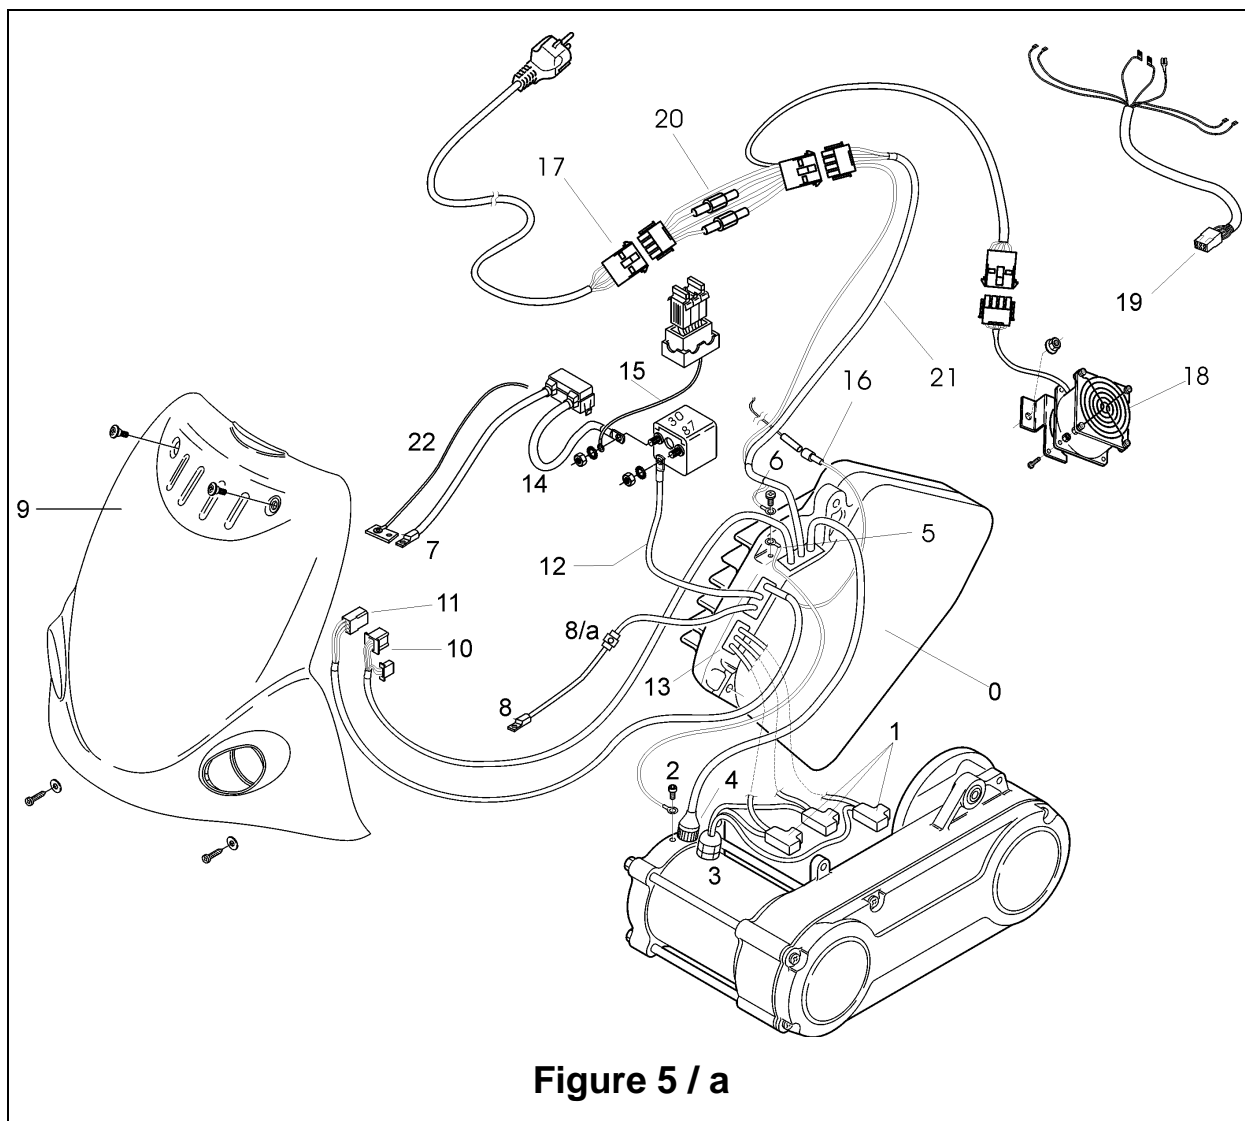

Figure 5 / a
- Remove the helmet storage compartment, being careful to disconnect the battery recharger plug (17 - Figure 5) and the connector of the rear light system (19 - Figure 5).
- Cut the thermal sheath from the Z10-1 connectors (1 - Figure 5);
- Unscrew the 3 connectors in order to pull out and disconnect the power cables (1 – Figure 5);
- Disconnect the ground cable (yellow/green) from the motor case (2 - Figure 5);
- Pull out the signal connection cable with the corresponding connectors from the hole in the motor flange (4 - Figure 5).
- Connect the cable with the connector to the top of the motor frame(4 - Figure 5);
- Connect the ground cable (yellow/green) (2 - Figure 5);
- Connect with the Z10-1 clamps the motor power cables(Black / Red / Green) to the cable coming out of the DRIVE (Black / Brown / Blue) (1 - Figure 5);
- Mount the helmet storage compartment supply to connect the battery recharger plug (17 – Figure 5) and the connector of the rear light system (19 – Figure 5);
VERSION****Figure 5**
- Open the battery compartment and disconnect the positive poles (7 - Figure 5) and the negative poles (8 - Figure 5) (10 mm² section) from the battery group;
- Remove the helmet storage compartment, carefully disconnecting the battery recharger plug (17 - Figure 5) and the connector of the rear light system (19 - Figure 5);
- Remove the cooling fan (18 - Figure 5);
- Cut the heat-restringent covers from the Z10-1 terminals (1 - Figure 5)
- Pull out the signal connection cable on the top of the motor flange(4 - Figure 5);
- Disconnect the ground cable (Yellow / Green) from where it is attached to the motor casing (2 - Figure 5);
- Remove the front shield unscrewing the 4 screws (9 – Figure 5). Disconnect the 3 connectors from the electrical system (10 / 11 – Figure 5) and cut the self-blocking band. These cables are connected directly with the DRIVE. Pull them with care following their runway site under the frame, in order to preserve the cable;
- RED wire (10 mm² section) from terminal 87 of the switch (12 – Figure 5);
- BLUE wire drive wire from the yellow wire of the scooter's electrical system (16 – Figure 5);
- Disconnect the cables from the DRIVE plug to the electric recharge system (21 – Figure 5) ;
- Remove all the 2 screws of the DRIVE, and remove the DRIVE (0 – Figure 5).
- Connect the signal cable from the drive in the appropriate connector on the top of the motor flange (4 – Figure5);
- Connect the ground cable (Yellow / Green) from DRIVE to the motor casing (2 - Figure 5);
- Connect the 2 signal cables with the electrical system into the front shield (10/11 – Figure 5), taking care that this cables should be insert and block to the frame (under the footboard, like originally). Blocking the 2 cables with self-blocking band;
- Positioning the NEGATIVE pole with the fastening clamp (8 – Figure 5) across the frame in order to bring near the NEGATIVE pole of the battery pack with the pin;
- Fixing completely the DRIVE to the frame brackets (0 – Figure 5), then fixing the cooling fan (18 – Figure 5) with the correct gradient;
- Open the battery compartment, remove the bar (4 – Figure 7). Remove the plastic protection of the battery pack, disconnect the POSITIVE pole (7 – Figura 5/a) from the batteries. NOTE: there is a temperature sensor mounting to an aluminum bar connect with the POSITIVE pole (22 – Figure 5/a). Taking care to remove the sensor.
- Remove the helmet storage compartment, carefully disconnecting the battery recharger plug (17 - Figure 5/a) and the connector of the rear light system (19 - Figure 5/a);
- Remove the cooling fan (18 - Figure 5/a);
- Cut the heat-restringent covers from the Z10-1 terminals (1 - Figure 5/a);